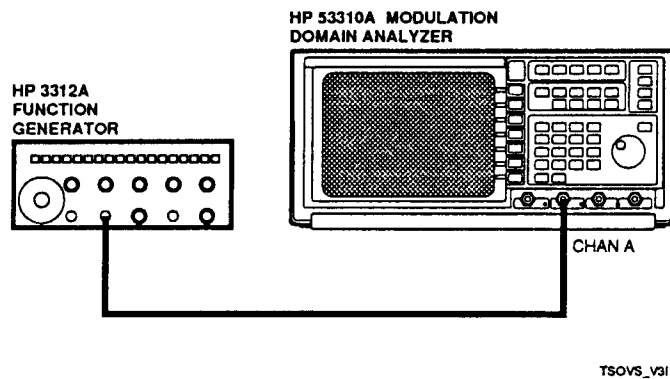

Figure 2-4. HP 53310A Operational Verification Setup
- 1 Connect the HP 53310A as shown in *Figure 2-4*; that is, perform the following: